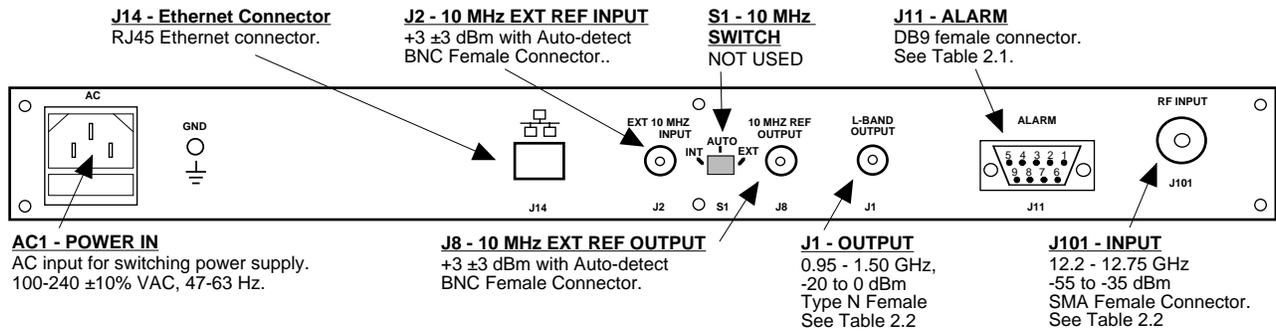

FIGURE 2.1 3116-125 Rear Panel I/O's
Figure 2.1 shows the input and output connectors on the rear panel.
1. Connect a -55 dBm to -35 dBm signal to RF IN, J101 (Figure 2.1).